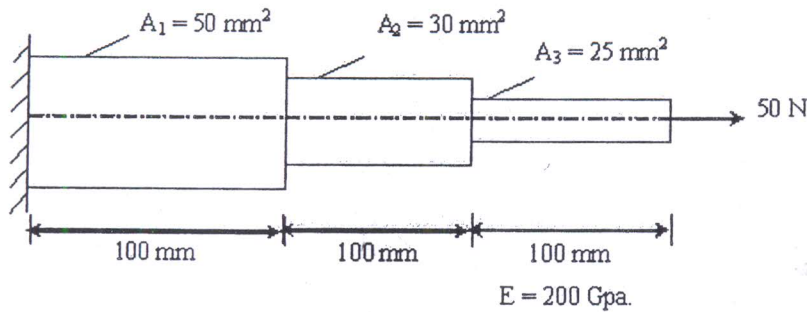

Figure.1
b) Use finite element method to calculate displacements and stresses of the bar shown in the Figure.1. [15]